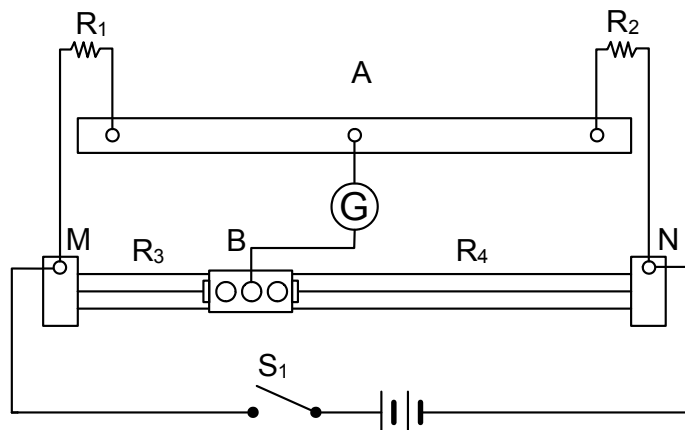

Fig.2
The Wheatstone bridge circuit is as shown in Fig. 2. MN is the metal wire, the point B divides MN into MB and BN , and the resistances are R_3 and R_4 . Each resistance is proportional to its length, so
- Set up the wires as shown in Fig. 2. R_1 is the resistance of the variable resistance box, R_2 is the resistance of the unknown resistance box, G is the galvanometer, and B is the probe.